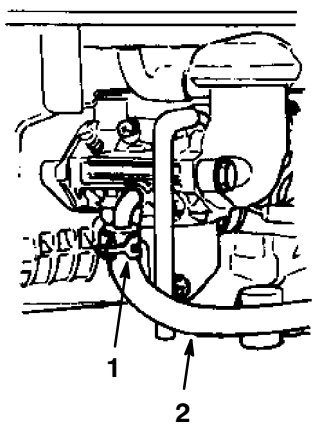

Figure 29
3. Remove the fuel tube by loosening the tube clamp at the carburetor (Fig. 29).